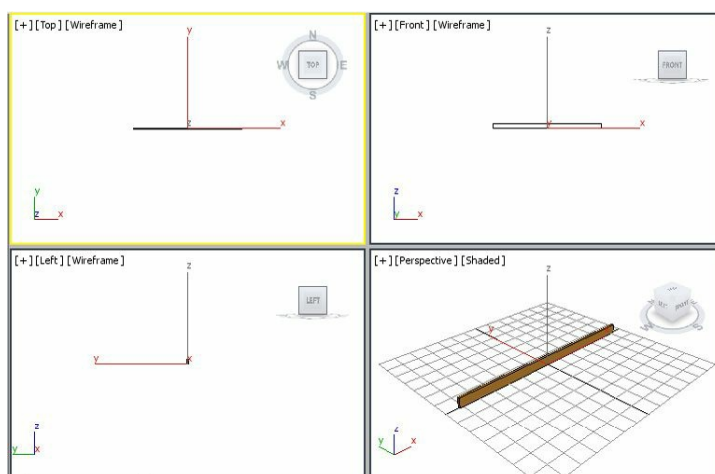

Figure 2-64 A box created
3. Choose the **Create** button from the **Keyboard Entry** rollout; a box is created in viewports, refer to Figure 2-64.